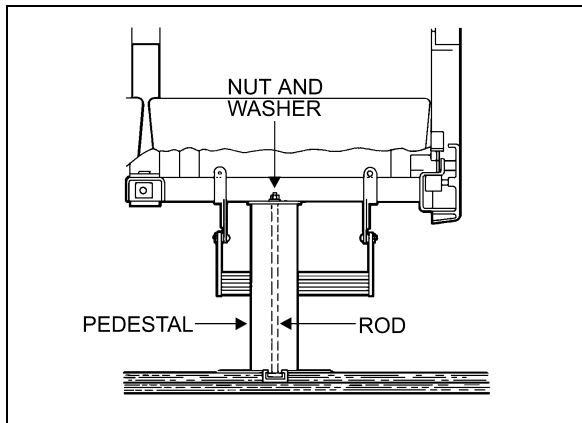

FIGURE 88: SEAT PEDESTAL ASSEMBLY 18107
5. Remove 2 nuts and washers holding seat frame to pedestal rods. See Figure 88.